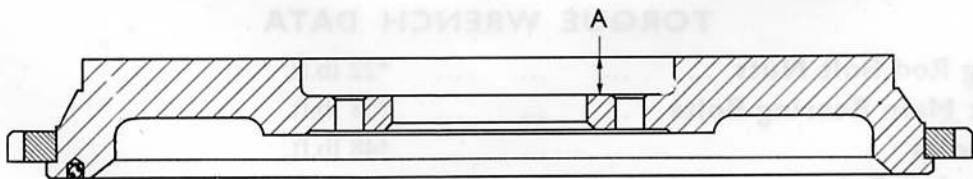

Fig. A.69. Flywheel machining data diagram
**Minimum Thickness after Refacing** ... .. .490 in. (dimension 'A', Fig. A.69)